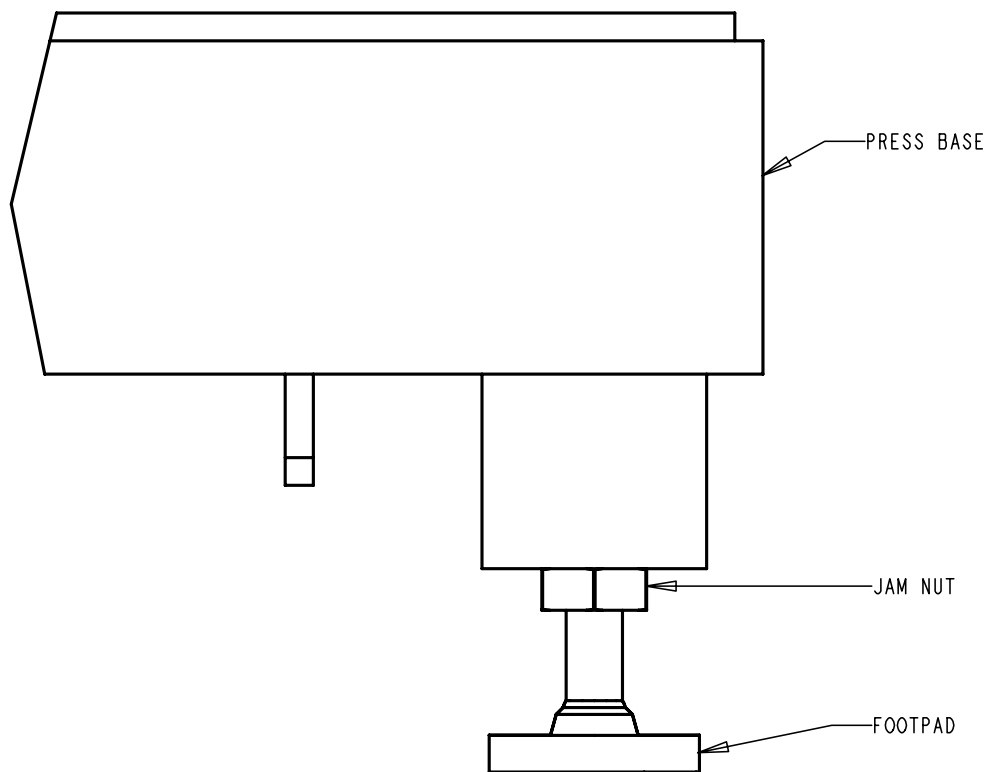

FIGURE 4-1
- The press should be leveled and stabilized after it has been located. This is done by adjusting the height of each footpad then locking each footpad in position by tightening a jam nut. This task requires two 3/4" wrenches (See Fig 4-1). An adjustable wrench may also be used. Adjust the foot pad while reading the level at the tooling nut gate adapter. The universal escapement adapter must sit level for proper functioning of the feed systems.